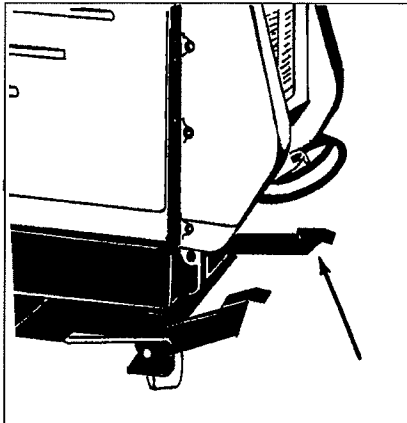
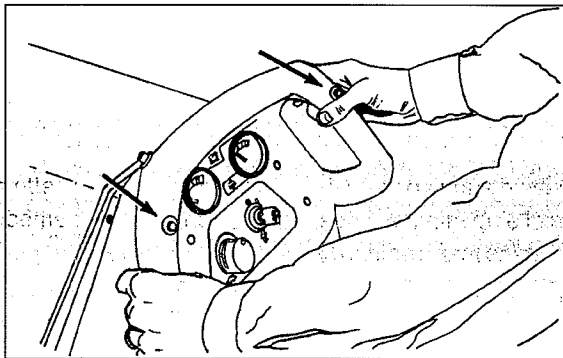

Figure 1
Figure 2
1. Make sure the loading ramp is at least eight (8) feet long, and strong enough to support the machine.
4. Push down on head lift pedal to raise head to pad changing position. See figure 1.
6. Align the machine on a level surface five (5) feet in front of the ramp.
8. Push in one of the forward/reverse switches. See figure 2.
4. Poussez sur la pédale de relevage de la tête afin de relever la tête dans la position de changement du disque. Voir figure 1.
8. Pressez l'un des deux interrupteurs marche avant / arrière. Voir figure 2.